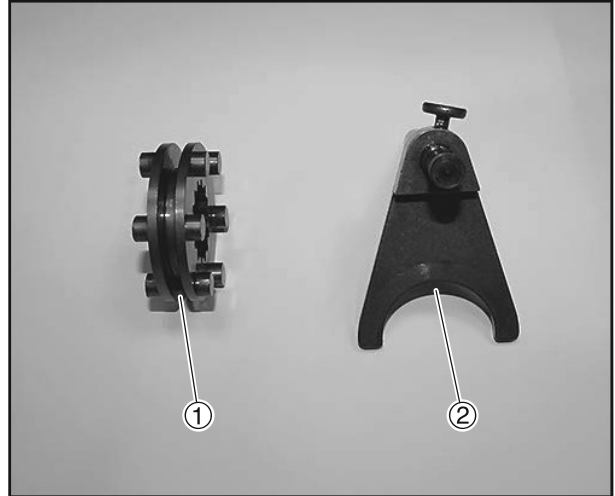

Figure 6-81
19. Inspect the shift collar (**Figure 6-81, (1)**) and the shift fork (**Figure 6-81, (2)**) for wear.